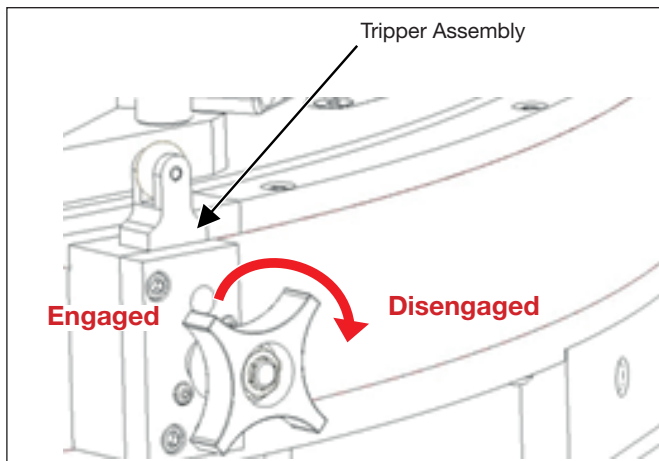

Figure 30: Tripper Assembly
- Disengage the tripper** by turning the tripper knob clockwise. NOTE: Trip the star wheel 1 time to either stop or disengage the feed. Leaving the tripper engaged will cause the feed to start and stop every other revolution of the cutting head resulting in an inconsistent surface finish. Refer to figure 30.